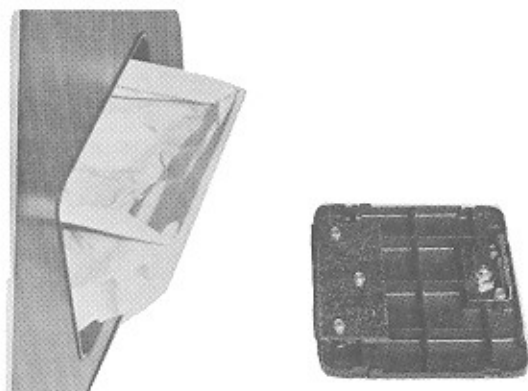

Figure 3-5. Cash Bag Removal
1. Unlock the cash bag door and pull the door away from the cabinet (See Figure 3-5.).